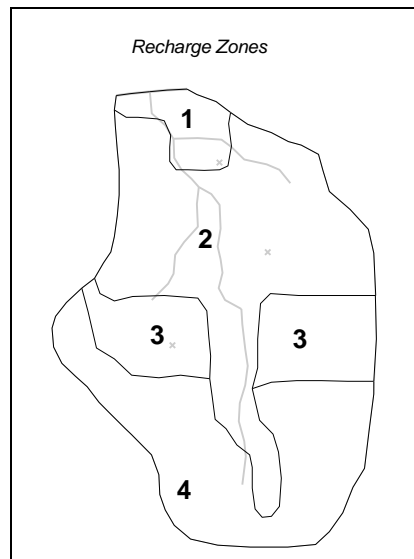

Figure 1 Recharge zones
First, it is necessary to assign the transient recharge rate for the recharge zones. The recharge zones are shown in Figure 1. There are four recharge zones defined by five polygons. The user will leave the recharge rate for zone 1 at zero. However, the user will assign a transient recharge rate to the other three zones.
5. Select the polygon corresponding to recharge zone 2 in Figure 1.